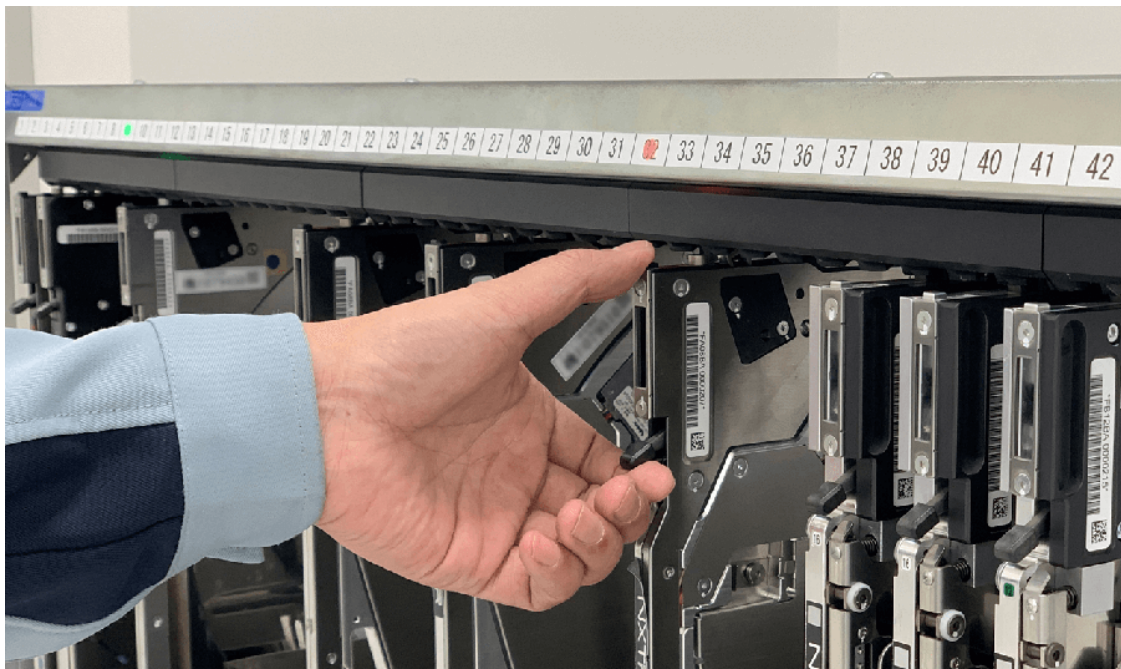

Figure 4. Automatic work orders inform offline changeover.
**Offline changeover.** The system provides changeover guidance, so operators know what work they need to do and in what order to ensure that the necessary parts are supplied to the placement line without delay. LED lighting patterns provide a visual indication of whether it is possible to use a feeder (**Figure 4**).